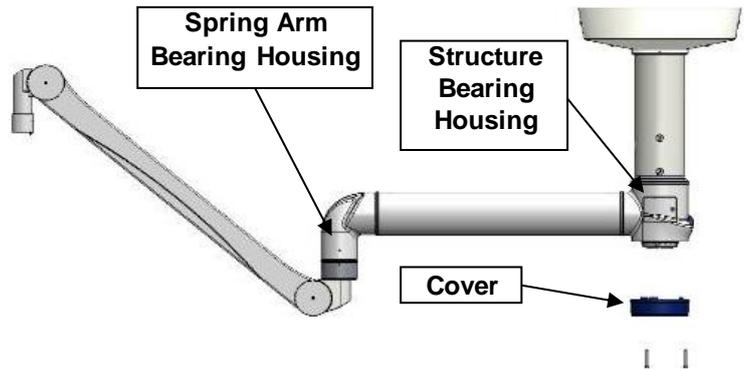

Figure 16
- Place cover on a clean surface, see Figure 16